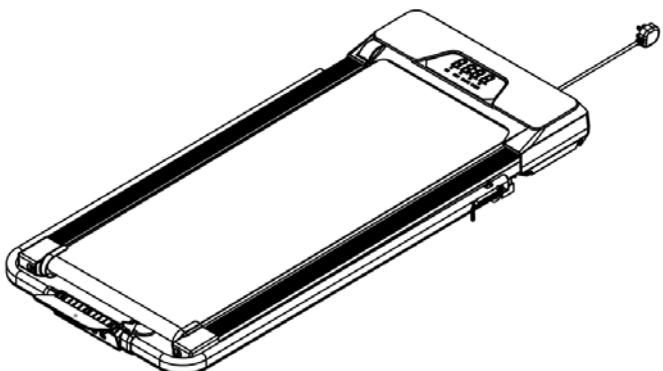

Figure 5
D: (Figure 5) folding treadmill. When folding treadmill is required, remove (18) 2 PCS screws M8 * 20 and (19) 2PCS ϕ 8 flat gasket after the handle. Put the column flat on the ground!